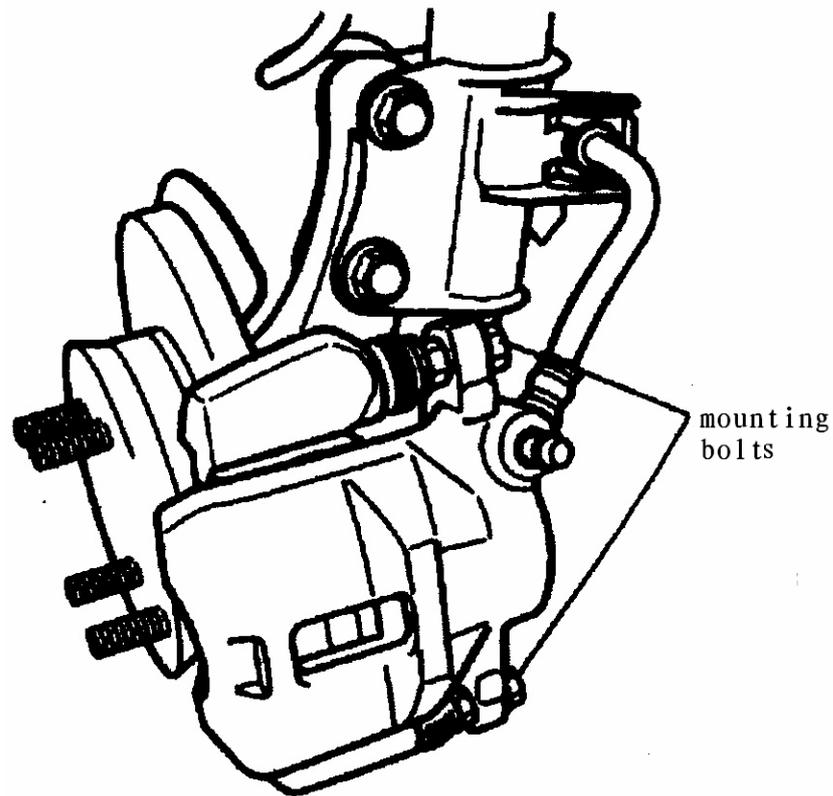

FIG.16-13
- (3) Remove caliper mounting bolts.(FIG.16-13)
(1) Remove caliper mounting bolts (FIG.16-13)